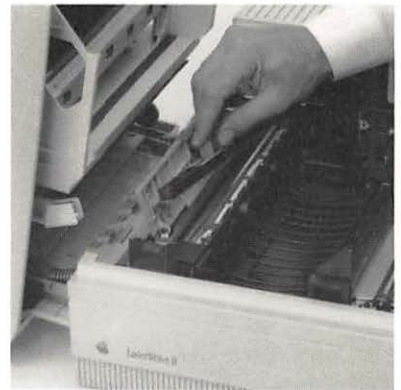

Figure 1-13
3. Fit the pad into the groove on the underside of the green cover. (See Figure 1-13.)